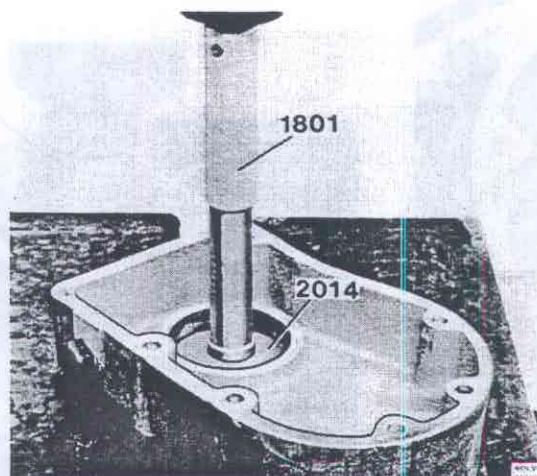

Fig. 48-13. Removing the seal
7. Remove the circlip in the housing and press out the seal with 1801 + 2014, see Fig. 48-13.